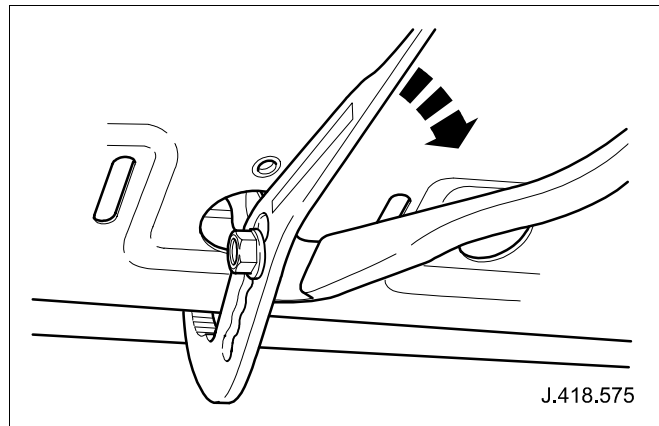

Fig. 13
- 34 Using suitable handgrips bend edge of roof intermediate strengthening panel downwards. (See Fig. 13)